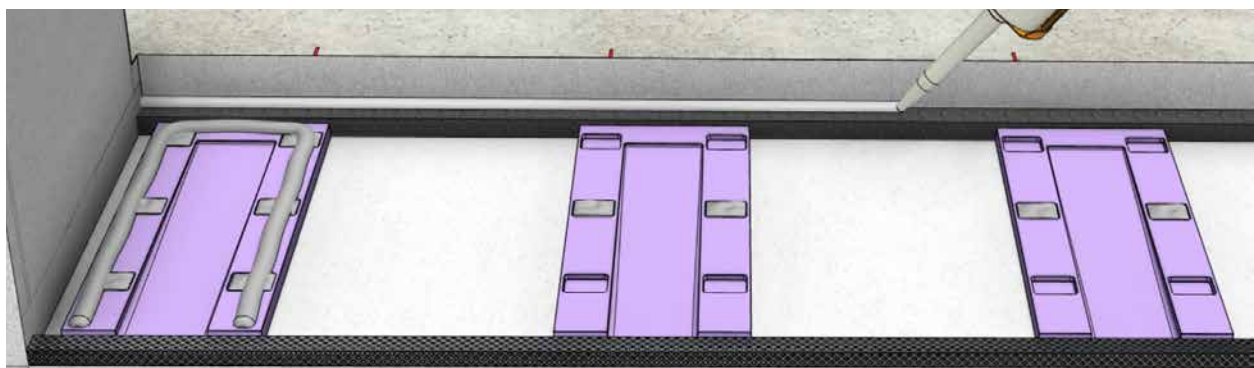

Fig 22
- Place a generous bead of silicone sealant on top of the interior Foam Tape and against the vertical wall of the Sill Pan (Fig. 22).